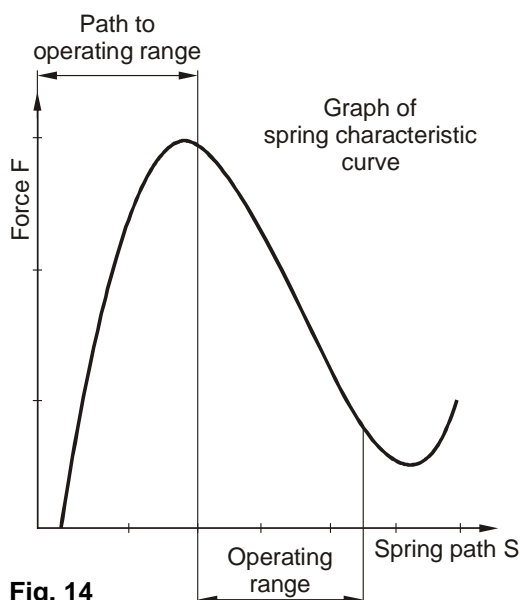

Fig. 14
The respective torque adjustment range is printed on the Adjustment Table (11). Torque adjustment is carried out by turning the adjusting nut (5/20). The installed cup springs (10) are operated in the negative range of the characteristic curve (see Fig. 14). This means that tightening the adjusting nut (5/20) causes the spring force to decrease, and loosening the adjusting nut (5/20) causes the spring force to increase. If no torque is specified on order, the clutch is pre-set to approx. 80 % of the maximum torque. The reference marking and the torque specification show the set value directly. If no changes to the pre-set clutch torque are required customer-side, the hexagon head screws (6/22) must nevertheless be screwed out, painted with Loctite 243 and screwed back in again by the customer.
1. loosen and unscrew the hexagon head screw (22),
2. adjust the adjusting nut (20) using a hook wrench until the reference marking shows the required torque value,
3. if necessary, correct the adjusting nut (20) position slightly until the marking notches between the locking ring (21) and the adjusting nut (20) align, and
4. paint the hexagon head screw (22) with Loctite 243 before screwing it back in again.
Adjusting the adjusting nut (5/20) or distorting the cup springs (10) outside of the cup spring characteristic curve (see Fig. 14) stops the clutch functioning.
The permitted operating range acc. Fig. 14 must be observed.